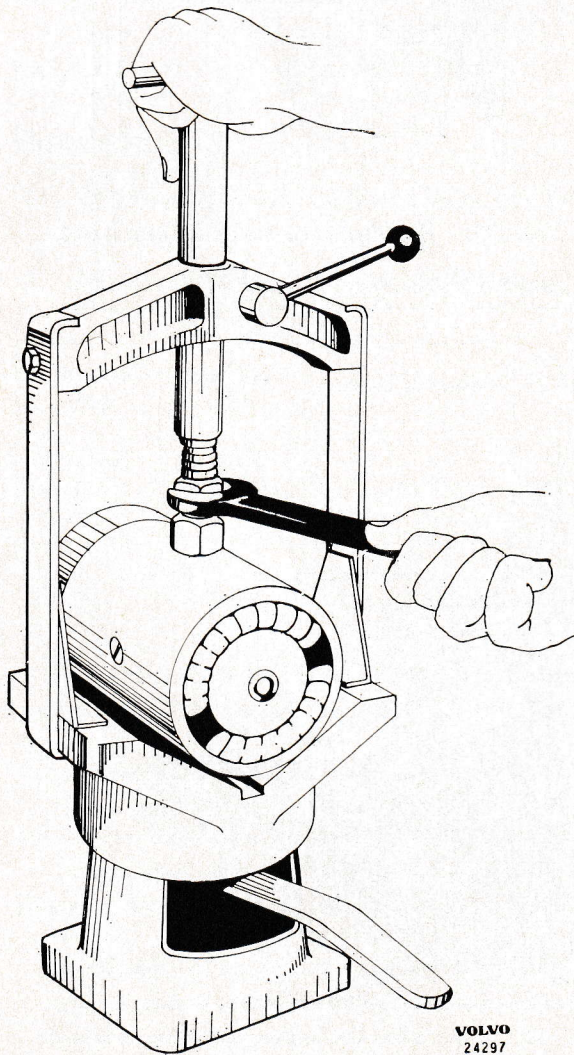

Fig. 31. Holding device for removing the field winding.
3. Place the stator in the holding device as shown in Fig. 31. (Bosch EF AW 9) and unscrew the pole screws.